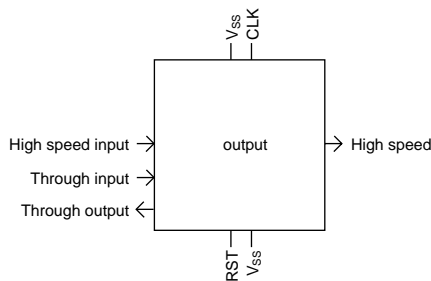

Figure 8-3 Example of the Placement of Critical Signal Pins – 1
- a) Place the clock and reset pins that require minimization of the influence of noise away from output pins and close to the power-supply pins (Figure 8-3).
- c) Place fast-operating input and output pins near the middle of one side of the chip (package) (Figure 8-3).
- d) If the delay time from any specific input pin to an output pin has a small margin in the customer specifications, place these input/output pins close to each other (Figure 8-3).